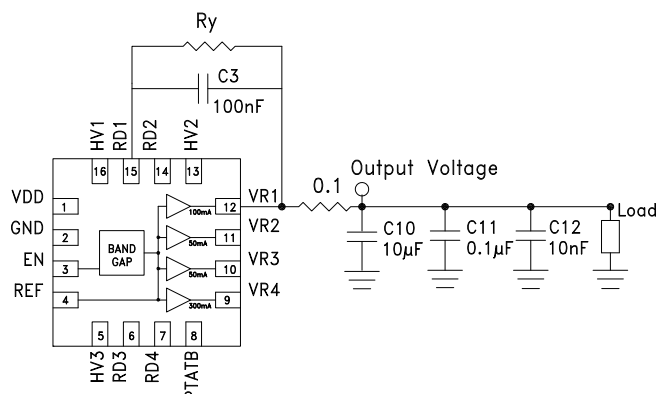

Figure 13. Recommended HMC1060LP3E configuration for supplying output voltage values less than default. [1]
The outputs of the HMC1060LP3E are configured to supply voltages less than the default values, down to 1.8 V minimum, by connecting a resistance ( $R_y$  in Figure 13) between pins VRx and RDx (where  $x = 1, 2, 3, 4$ ). Figure 13 shows an example of configuring VR1 output. Other outputs are configured in exactly the same way (ie.  $R_y$  is added between VR2 & RD2, VR3 & RD3 and between VR4 & RD4).
- To set VR1 = VR2 = VR3 = 1.8 V in with PTAT Mode disabled, external resistance Ry = 21 kΩ shown in Figure 13 is required.